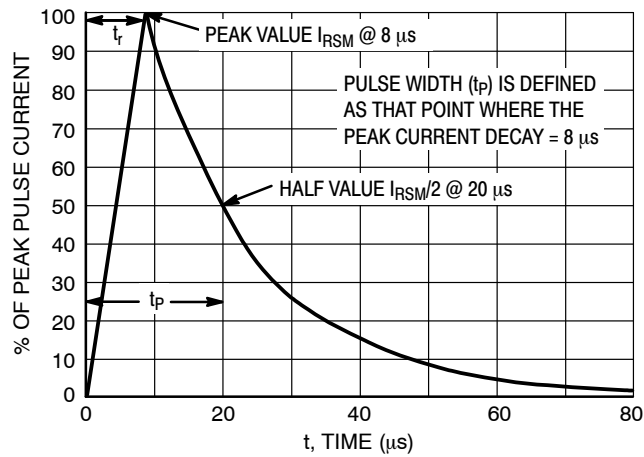

Figure 4. 8 X 20 μs Pulse Waveform
- Surge current waveform per Figure 4.